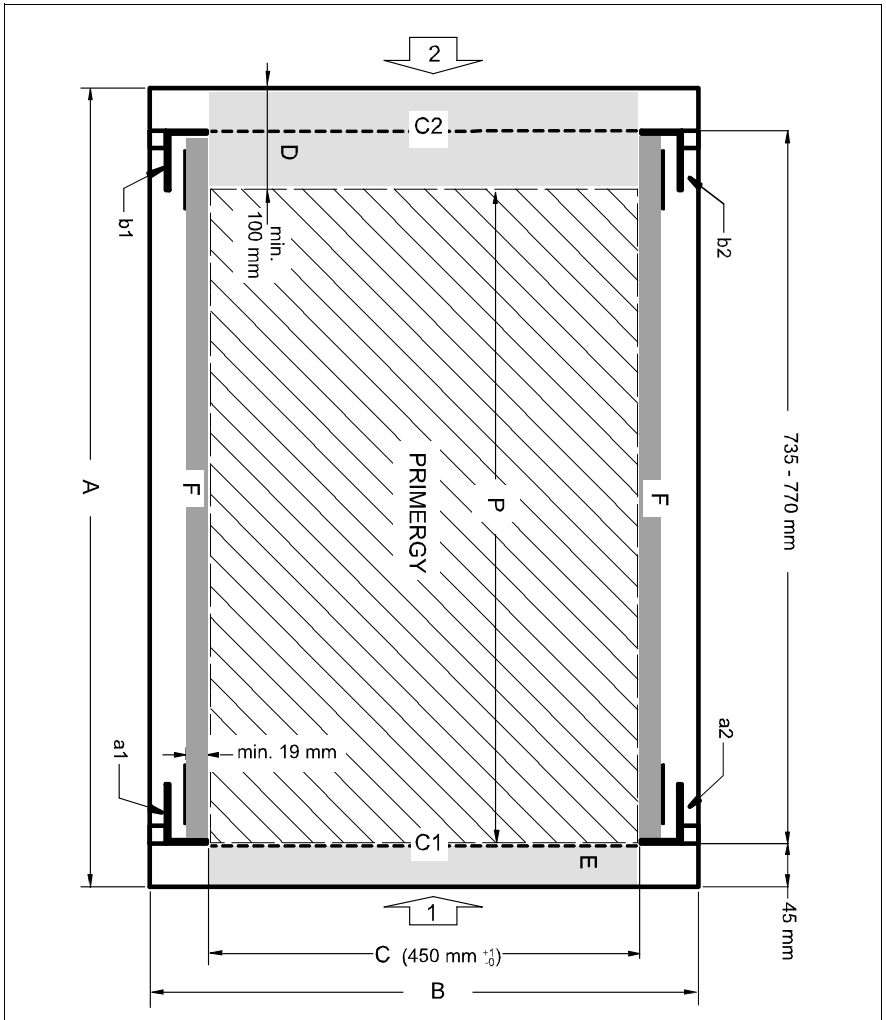

Figure 2: Mechanical requirements
- Installation dimensions (see the dimensions shown in figure 2 on page 43).